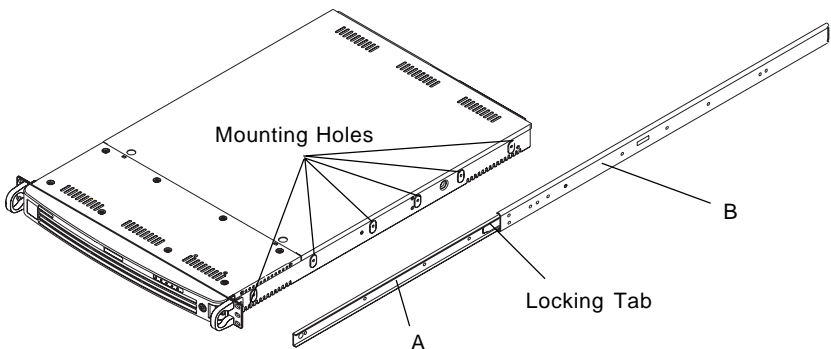

Figure 2-1. Identifying the Sections of the Rack Rails
You should have received two rack rail assemblies with the SuperServer 6012L-6. Each of these assemblies consist of three sections: an inner fixed chassis rail that secures to the 6012L-6 (A) and an outer fixed rack rail that secures directly to the rack itself (B). A sliding rail guide sandwiched between the two should remain attached to the fixed rack rail. (See Figure 2-1.) The A and B rails must be detached from each other to install.